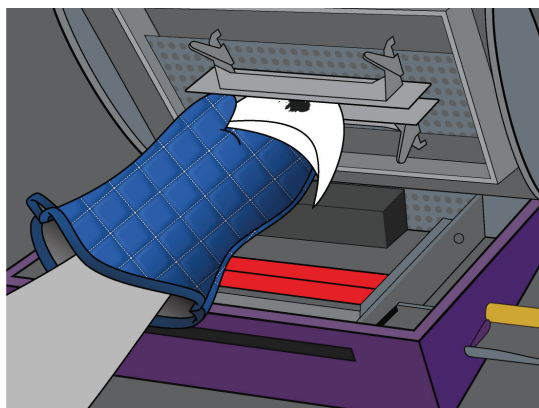

FIGURE 31
5. To clean the front backup bar, pull the front bar toward you and, at the same time, push back the rear bar. While wearing the heat protective glove, clean the surfaces of the bar with a clean dry cloth dampened with the Cleaning Solution provided in your Accessory Pack. (figure 31)